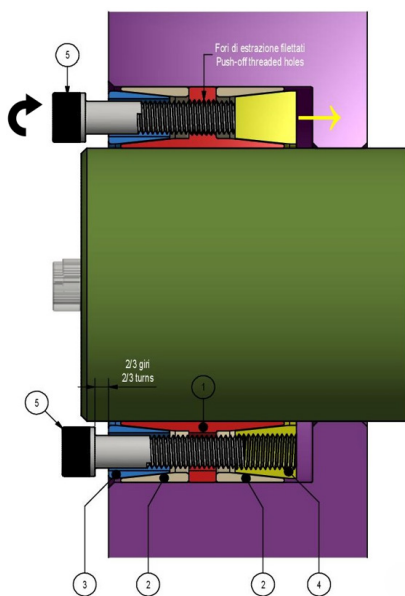

Fig. 4
2. Loosen all screws by two/three turns; then transfer some screws into all push-off threaded holes in the inner ring, accessible via corresponding clearance holes in the front thrust ring. **Progressively tighten these screws in a crosswise pattern, using approx. ¼ turns for several passes** until rear thrust ring is released (fig. 4). **Leave the screws in place after rear thrust ring is released.**